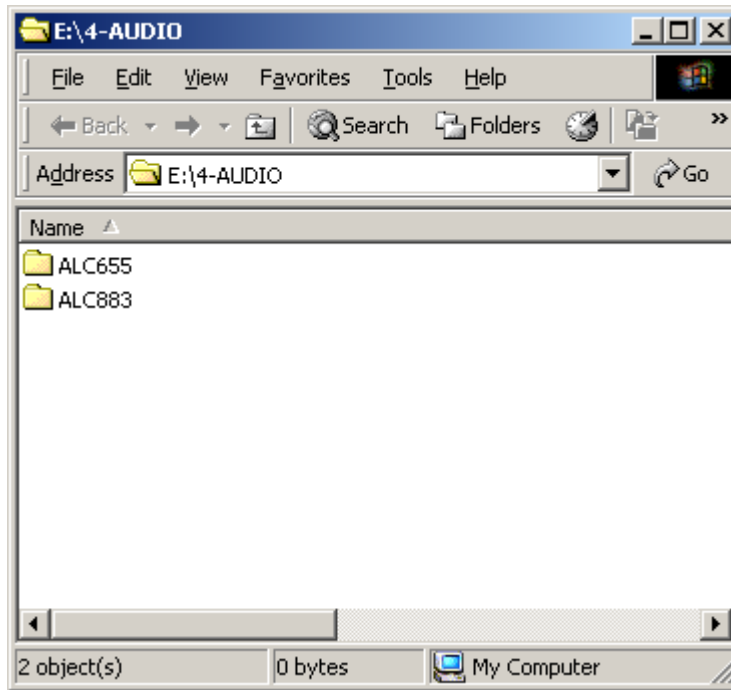

Figure 7-42: Select the Audio CODEC
Step 2: A new window opens (Figure 7-42).